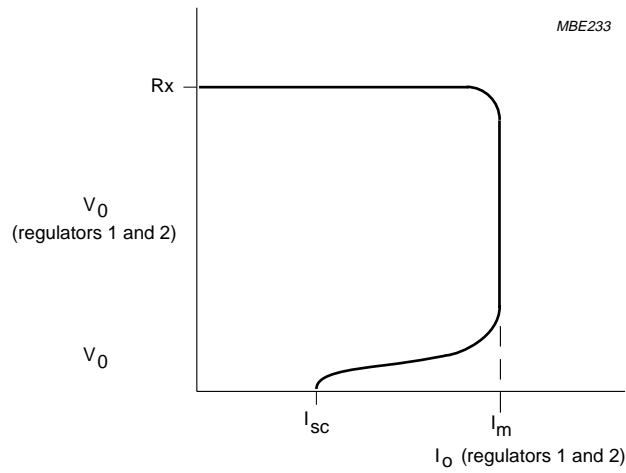

Fig.5 Foldback current protection of the regulators.
8. At current limit, I_{REGm} is held constant (see Fig.5).
9. The foldback current protection limits the dissipated power at short-circuit (see Figs 5 and 6).